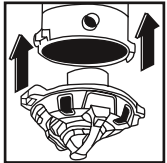

Fig. 4
4. Set the power head in place. Align the locks. Press locks in place. (Fig. 4)